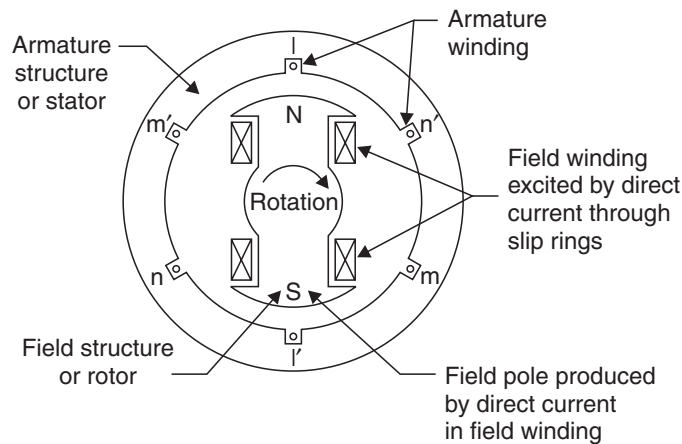
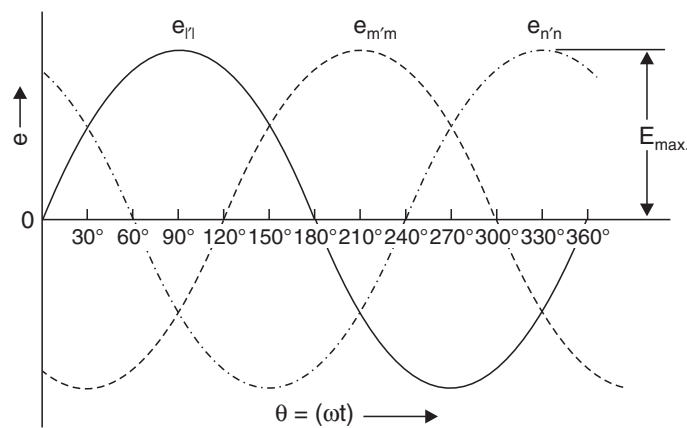
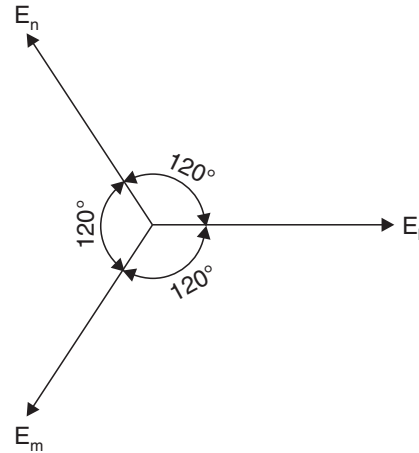

Fig. 1. Elementary 3-phase 2-pole generator.
Fig. 2. Voltage waves generated in windings of Fig. 1.
Fig. 3. Phasor diagram of generated voltages.
- Let us consider an elementary 3-phase 2-pole generator as shown in Fig. 1. On the armature are three coils, ll' , mm' , and nn' whose axes are displaced 120° in space from each other.
- When the field is excited and rotated, voltages will be generated in the three phases in accordance with Faraday's law. If the field structure is so designed that the flux is distributed sinusoidally over the poles, the flux linking any phase will vary sinusoidally with time and sinusoidal voltages will be induced in three-phases. These three waves will be displaced 120° electrical degrees (Fig. 2) in time as a result of the phases being displaced 120° in space. The corresponding phasor diagram is shown in Fig. 3. The equations of the instantaneous values of the three voltages (given by Fig. 2) are :
In the generation of three-phase e.m.fs. in Fig. 2 clockwise rotation of the field system in Fig. 1 was assumed. This assumption made the e.m.f. of phase 'm' lag behind that of 'l' by 120° and in a similar way, made that of 'n' lag behind that of 'm' by 120° (or that of 'l' by 240°). Hence, the order in which the e.m.fs. of phases **l**, **m** and **n** attain their maximum value is **lmn**. It is called the *phase order* or phase sequence **l** → **m** → **n**. If now the rotation of field structure of Fig. 1 is reversed *i.e.*, made counter-clockwise, then the order in which three phases would attain their corresponding maximum voltages would also be reversed. The phase sequence would become **l** → **n** → **m**. This means that e.m.f. of phase 'n' would now lag behind that of phase 'l' by 120° instead of 240° as in the previous case.